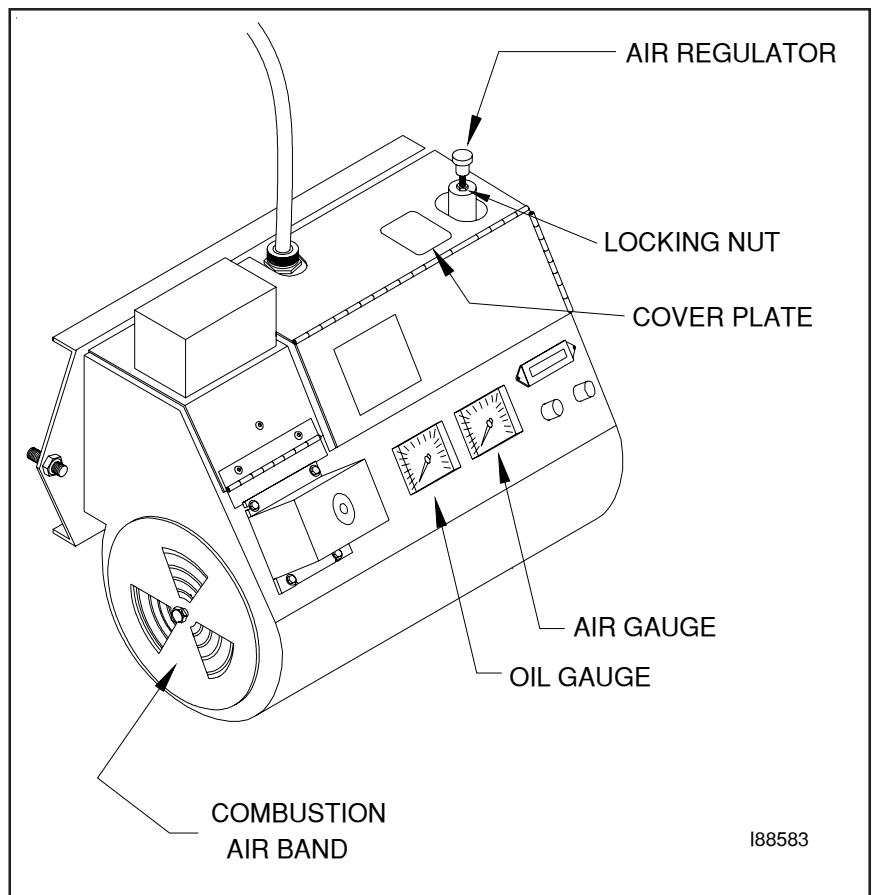

Figure 6A - Component Detail of the CB-525-S2 Burner
ATTENTION: *Please verify that the oil regulator has been removed from the burner as shown in Figure 6A. If the oil regulator has not been removed, please refer to Section 5 for the necessary instructions -- Preparing the Burner for Use with the Metering Pump.* The metering pump will automatically supply the correct flow (GPH) of fuel to the burner.
4. Refer to Figure 6A to locate the air regulator.
- Refer to Figure 6A to locate the combustion air band.
- Refer to Figure 6A to identify the combustion air band location on the burner.